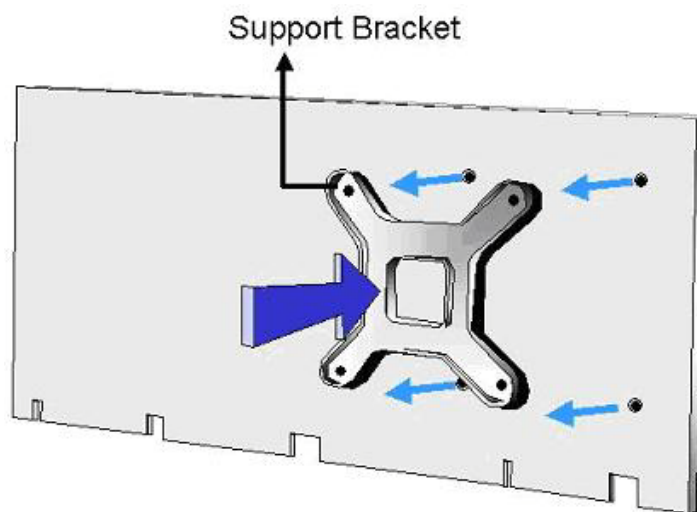

Figure 4-4: Cooling Kit Support Bracket
- Step 3:** **Secure the cooling kit.** From the solder side of the PCB, align the support bracket to the screw threads on heat sink that were inserted through the PCB holes. (See **Figure 4-4**)
To install an SO-DIMM, please follow the steps below and refer to **Figure 4-4**.
- Step 3:** **Insert the SO-DIMM**. Push the memory in at a 20° angle. (See **Figure 4-4**)
- Step 4:** **Seat the SO-DIMM**. Gently push downwards and the arms clip into place. (See **Figure 4-4**)